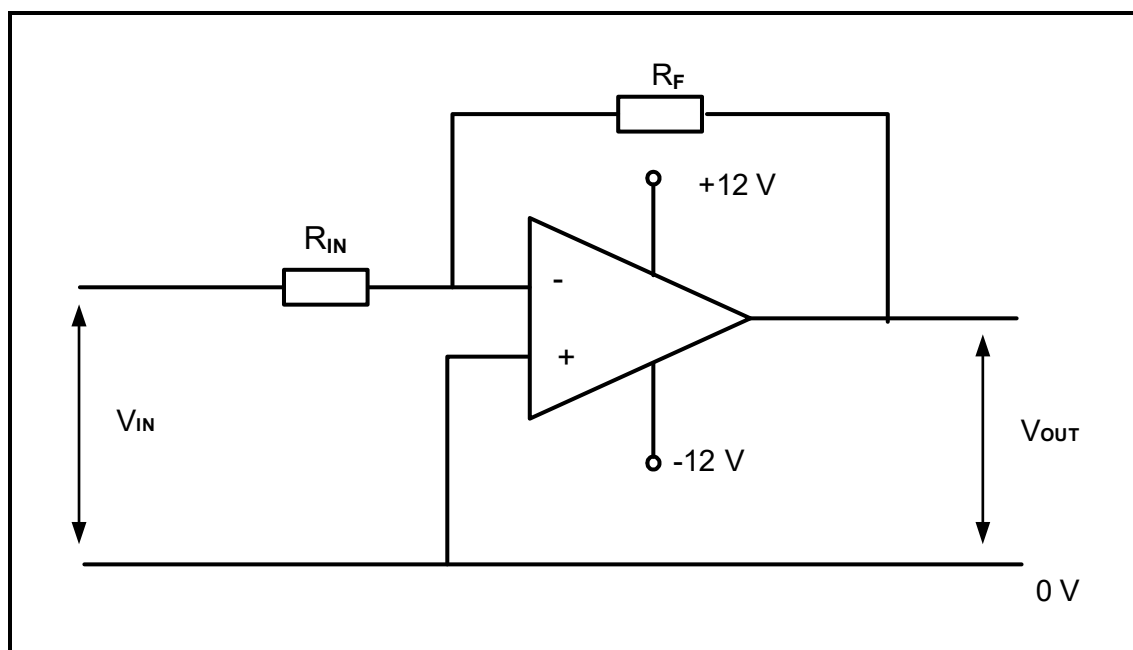

FIGURE 4.3: INVERTING OPERATIONAL AMPLIFIER
4.3 Refer to FIGURE 4.3 below and answer the questions that follow.
- 4.3.2 State the principle according to which the circuit in FIGURE 4.3 above operates to have a zero volt at the inverting input. (1)